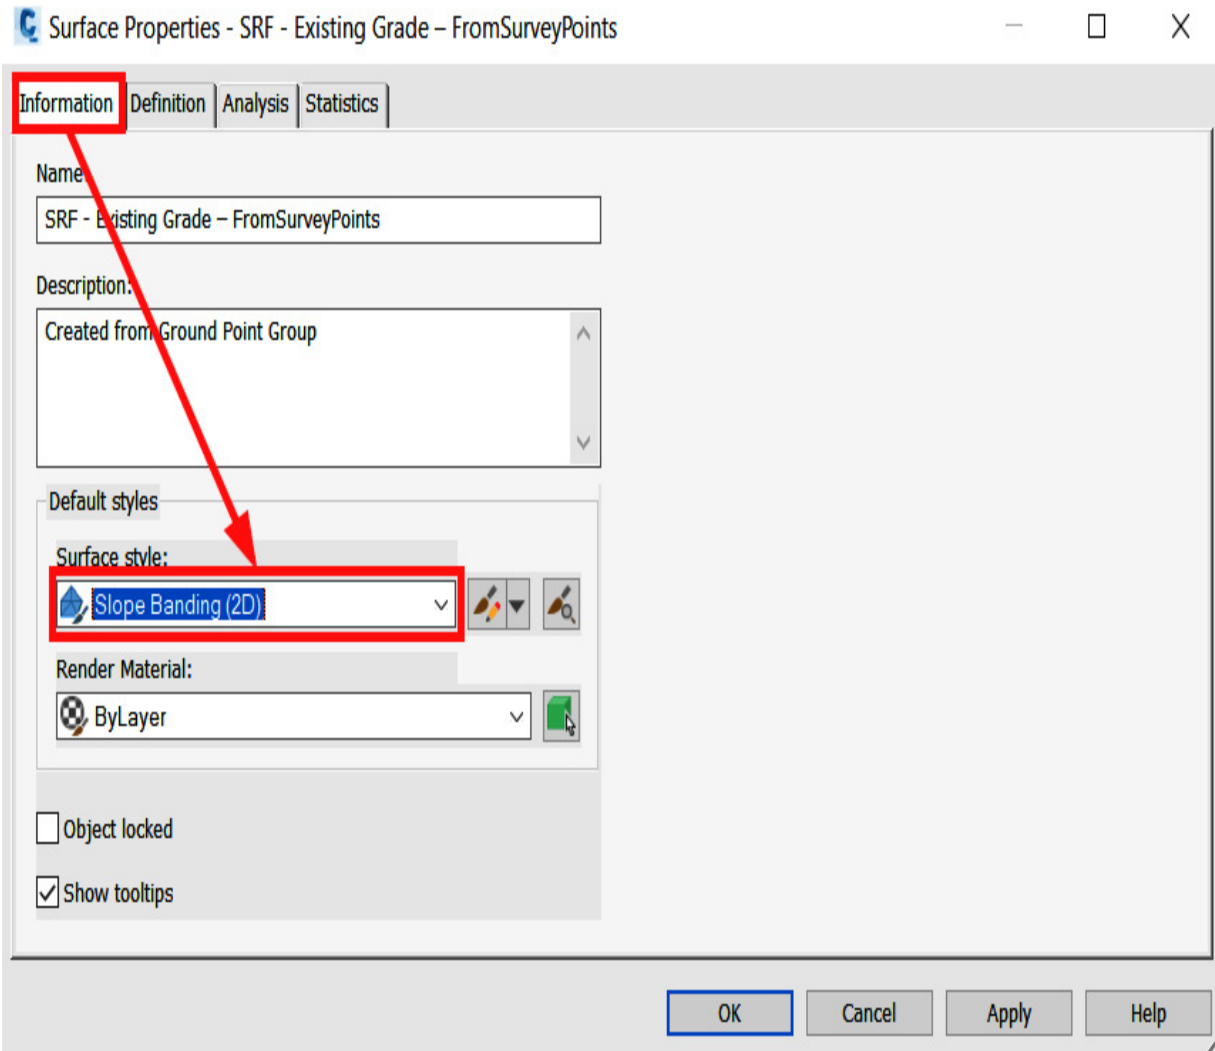

Figure 6.18 – Surface Properties dialog box | Information tab – applying slope display style
**Properties** dialog box and apply the **Slope Banding (2D)** surface style (refer to *Figure 6.18*), and click on the **OK** button in the bottom right corner of the dialog box.